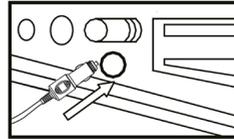

Figure 3
- Toggle the adjustment knob (2) to select the pressure value you need.
- After completing the above steps, press the power switch button (3) to start inflation.
- The applied power source must be the 12V DC power source (as Figure 3).